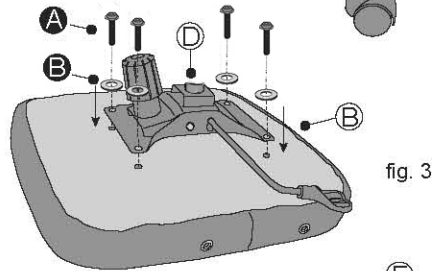

fig. 3
1. Use the Screw **B** to fix the Seat Support **D** into the Seat Cushion **B**. See fig. 3.
1. Use Bolts **A** and Washers **B** to fix the Seat Support **D** into the Seat Cushion **B**. See fig. 3.